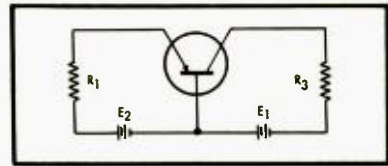
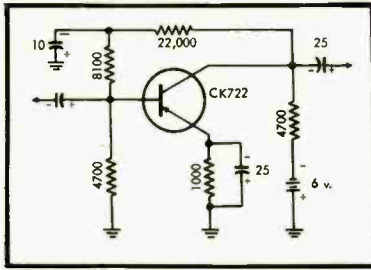

Fig. 3. Popular 2-battery bias circuit can be had by specializing various resistances in Fig. 2.
Fig. 4. A practical stage which can be put into the form of Fig. 2 for calculating the bias stability, which happens to be equal to 2.96.
A large number of circuit configurations can be expressed as special cases of the circuit shown in Fig. 2. The circuit of Fig. 1, for example, is a special case of Fig. 2—with  $R_3$  and  $R_4$  equal to 0. Similarly, a very popular two-battery bias circuit (Fig. 3) is a special case of Fig. 2, with  $R_5$ ,  $R_2$  and  $R_6$  equal to 0, and  $R_1$  equal to  $\infty$ , and with the bias batteries moved about somewhat. Figure 4 shows a practical amplifier circuit, whose d.c. bias circuit is a special case of Fig. 2, with  $R_1 = 1000$ ,  $R_2 = 4700$ ,  $R_3 = 30,100$ ,  $R_4 = 4700$ ,  $R_5 = 0$ , and  $R_6 = 0$ . For the reason that most popular configurations can be expressed as special cases of Fig. 2, we will derive the formula for  $S$  for this case, and then make appropriate changes to obtain formulas for  $S$  for special cases. Analyzing the circuit of Fig. 2, we obtain, after a somewhat lengthy argument, a value for  $S$ , as in Eq. (10):